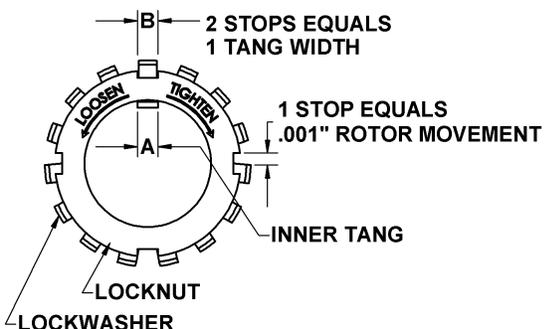

Figure 8— Locknut Assembly
7. Align the notch in stationary seat (153B) with the anti-rotation pin in the cylinder (12) and insert it into the seal recess with the polished face inward to mate with the rotating face.
8. Hand pack the ball bearing (24) with grease. Refer to "Lubrication" in the Pump Maintenance Section for the recommended grease.
9. Install the bearing (24) into the cylinder recess. The bearing balls should face outward, with the grease shield inward. Ensure that the bearing (24) is fully and squarely seated against the mechanical seal (153).
10. Keep the bearing (24) from falling out of the cylinder (12) by securing with one of the bearing cover capscrews (28) and a washer that will catch the outer ring of the bearing when tightened.
11. Turn the pump cylinder (12) over with the INTAKE port and relief valve to the **right**.
12. The models described in this IOM are Right Hand Rotation only. A Right-Hand rotation pump will have the drive end of the shaft (long end) protruding through the cylinder (12) with the bearing cover on the head.
14. Insert the shaft into the cylinder (12). Carefully slide the shaft through the installed mechanical seal (153) and bearing. Align the notch in the rotor with the drive tang on the seal jacket of the mechanical seal. Rotate the shaft to ensure the drive tangs of the mechanical seal are engaged in the notches in the rotor.
15. Install lockwasher (24B) on the shaft protruding through the bearing in the cylinder with the tangs outward. Ensure the inner tang "A" of the lockwasher is engaged in the slot in shaft threads. Bend it slightly, if necessary. (See Figure 8.)
29. With the tell-tale hole towards the bottom of the pump, carefully install the head assembly (20) over the shaft and against the cylinder (12). Use care not to damage the mechanical seal components. Align the drive tangs of the mechanical seal with the notches in the rotor.
30. Rotate the head (20) to engage the drive tangs of the seal jacket with the slots in the rotor.
31. Install and finger tighten the head capscrews (21). The head capscrews will be fully tightened after the second locknut is installed.
32. Install lockwasher (24B) on the shaft protruding through the bearing in the head with the tangs outward. Ensure the inner tang "A" of the lockwasher is engaged in the slot in shaft threads. Bend it slightly, if necessary. (See Figure 8.)
43. Tighten the opposite locknut (24A) by hand until it is snug against the bearing (24). Then, using a spanner wrench, tighten the nut the width of one lockwasher tang "B". Tighten just past the desired tang, then back off the nut to align the tang with the locknut slot. Secure the nut by bending the aligned lockwasher tang into the slot in the locknut. The pump should continue to turn freely when rotated by hand.
It is important that the bearing locknuts (24A) and lockwashers (24B) be installed and adjusted properly. Overtightening locknuts can cause bearing failure or a broken lockwasher tang. Loose locknuts will allow the rotor to shift against the discs (71), causing wear. See Figure 8.